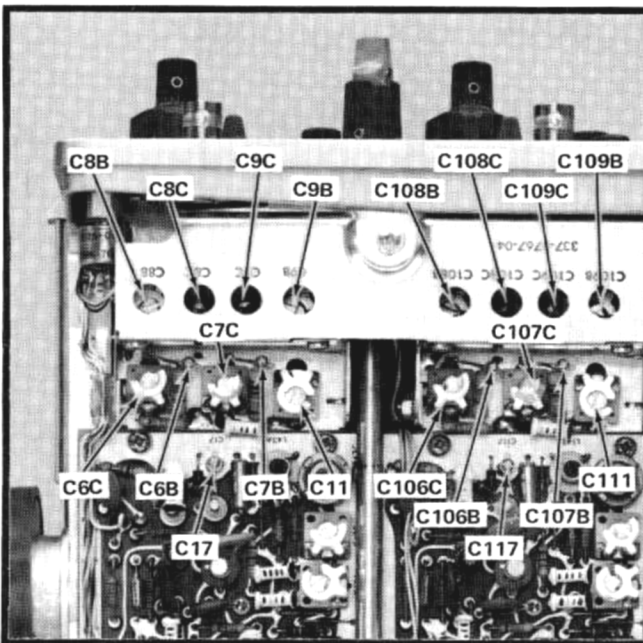

Fig. 5-9. Location of CH 1 and 2 VOLTS/DIV switch compensation.
displayed waveform (use low-capacitance screwdriver). Readjust the generator output at each switch position to provide six divisions of deflection. Fig. 5-9 shows the location of the capacitors.
j. ADJUST—CH 2 VOLTS/DIV switch series compensation as given in Table 5-5 for optimum square corner on the displayed waveform (use low-capacitance screwdriver). Readjust the generator output at each switch position to provide six divisions of deflection. Fig. 5-9 shows the location of the capacitors.
e. ADJUST—CH 2 VOLTS/DIV switch shunt compensation as given in Table 5-6 for optimum square corner on the displayed waveform (use low-capacitance screwdriver). Readjust the generator output at each switch position to provide six divisions of deflection (maximum of about three divisions obtainable in the 2 position). Fig. 5-9 shows the location of the capacitors.
Readjust the generator output at each switch position to provide six divisions of deflection (maximum of about three divisions obtainable in the 2 position). Fig. 5-9 shows the location of the capacitors.